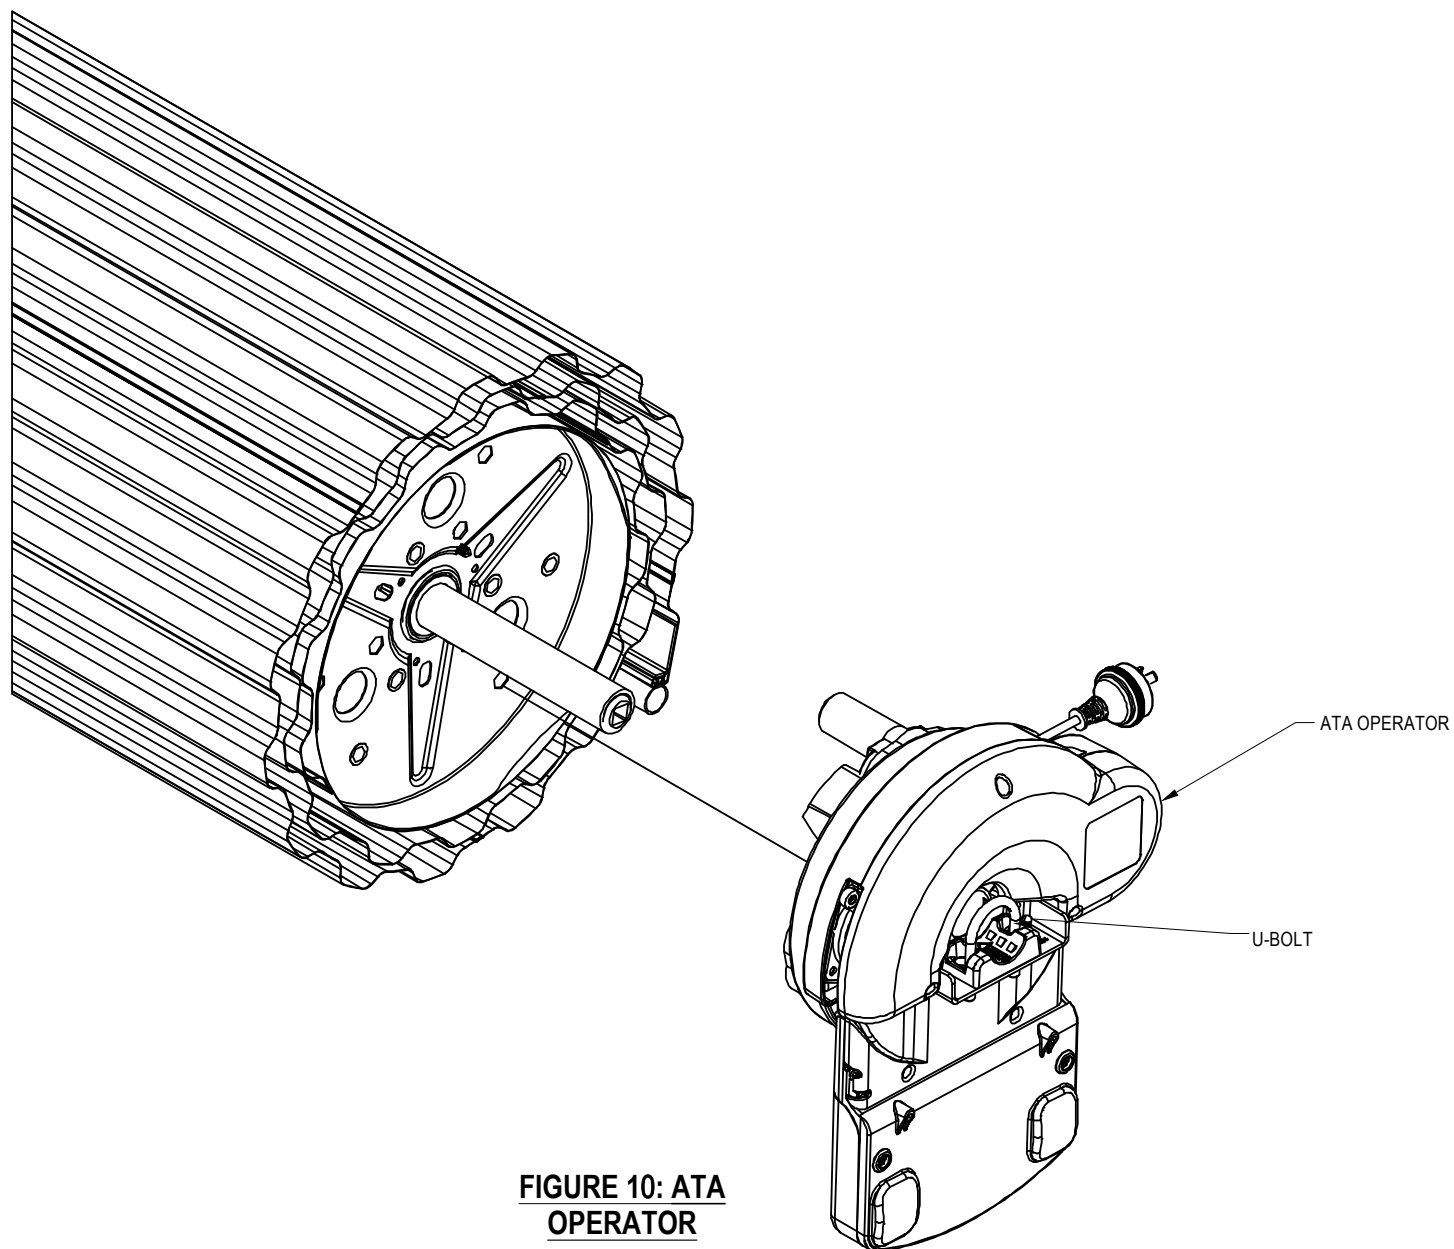

**FIGURE 9:
- Attach Support Spacer, and Sprocket to Drum using (3) $\frac{3}{8}$ -16 x 2- $\frac{3}{4}$ " hex bolt and $\frac{3}{8}$ " lock washers
- Tighten $\frac{3}{8}$ " - 16 square head set screws when in place. **See Figure 9.**